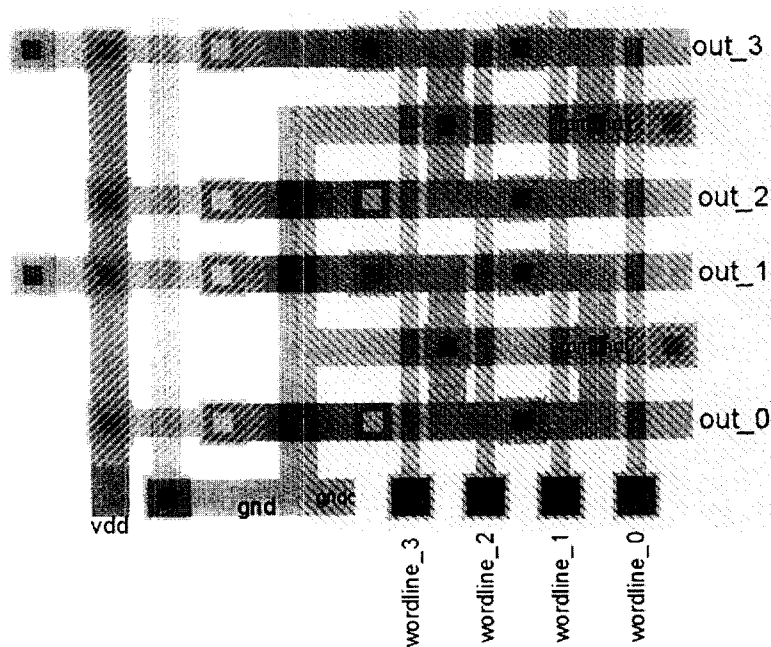

Figure 2.1 Layout of a 4 x 4 ROM array for Question 2
2. *Figure 2.1* (see the colour supplementary sheet) shows the layout of a 4 x 4 ROM array without the address decoder and output inverting buffer circuits.